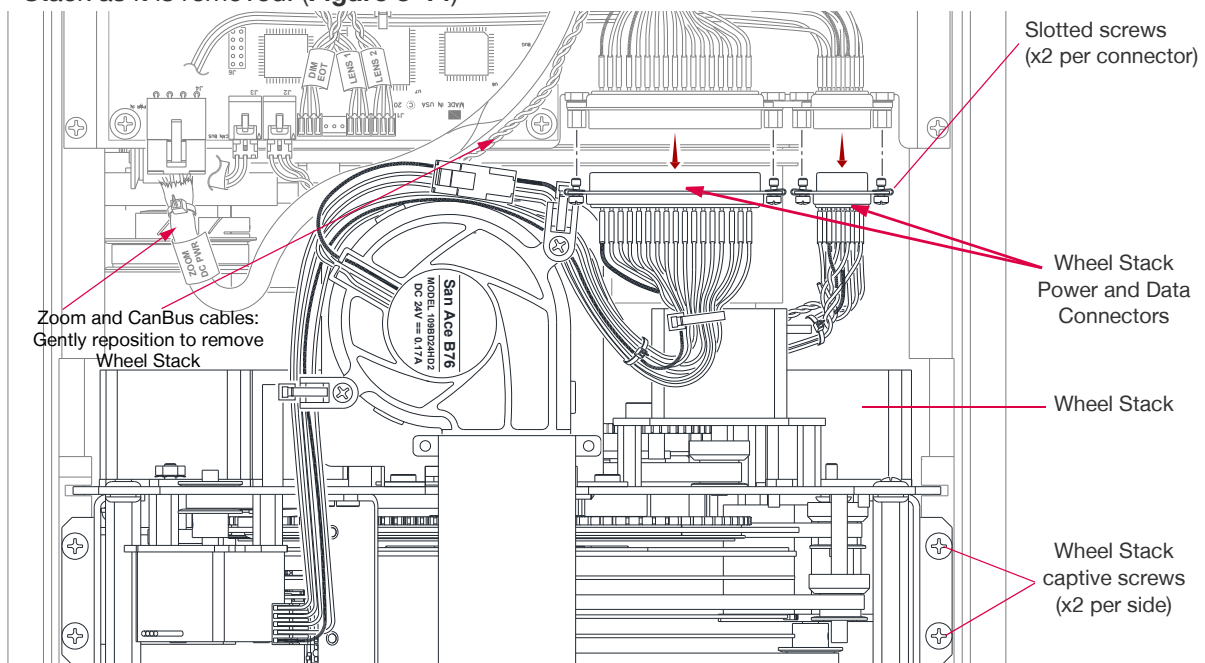

Figure 3-14: Wheel Stack Power and Data Cable Detail
- a. Disconnect the Power and Data cables for the from the Wheel Stack from the Driver PCB mount by loosening the slotted screws in each mount, and then gently rocking each side-to-side until disconnected. (**Figure 3-14**)
- b. Gently position the Zoom Power and Can Bus cables out of the way so they do not catch on the Wheel Stack as it is removed. (**Figure 3-14**)
- Step 8. Grasp the Wheel Stack on both sides, and lift straight up out of the Head while minding the Zoom and CanBus cables you repositioned so they don't catch on the Wheel Stack. **(Figure 3-14)**